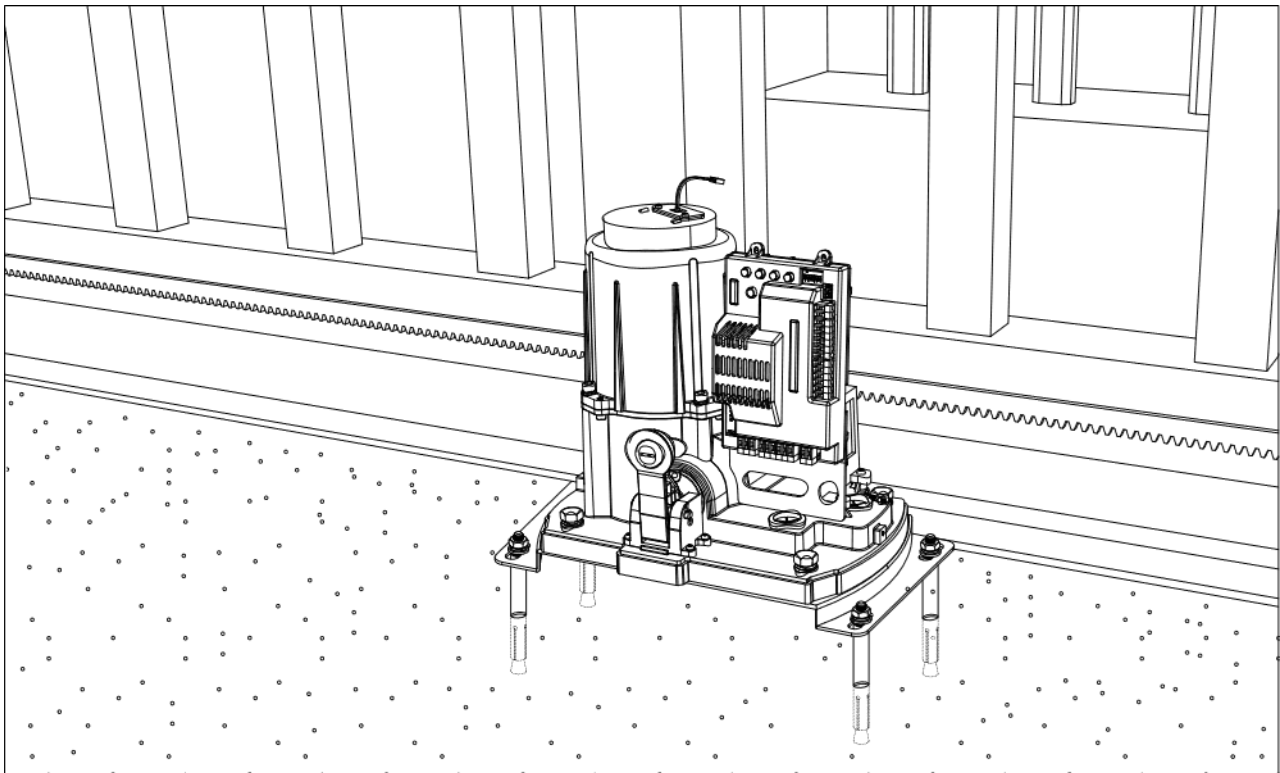

Figure 10
- Pre-position the machine according to (Figure 10) to ensure that the machine output gears and racks are aligned and that the gears and racks are centered as far as possible (see Figure 11). Tighten the expansion bolts and nuts on the mounting plate (ground screws are available).